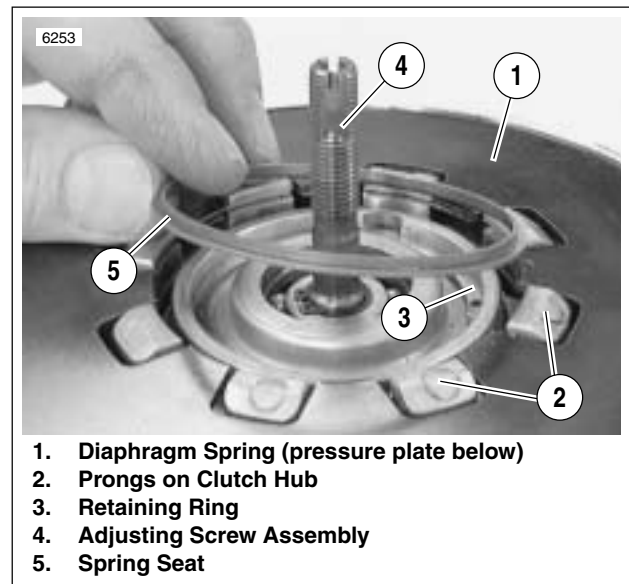

Figure 6-21. Spring Seat Installation
- a. See Figure 6-21. Align square openings of pressure plate and diaphragm spring (1) so that the assembly can be installed over prongs (2) of clutch hub.
- b. Position spring seat (5) with its larger O.D. side toward diaphragm spring (1).
- b. See Figure 6-21. Position diaphragm spring (1) with its concave side facing toward pressure plate onto pressure plate assembly.